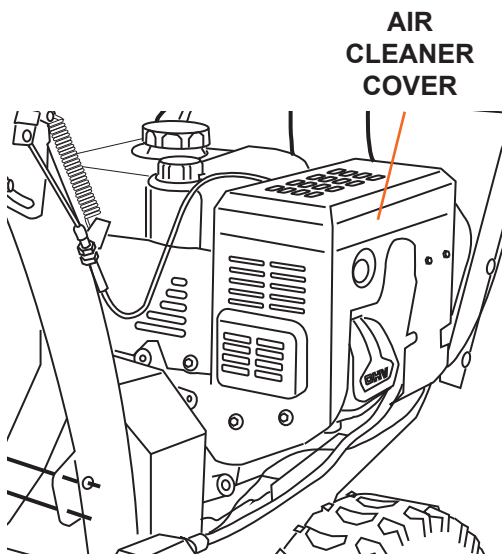

Figure 15
1. Wipe off the air cleaner cover. Loosen the knob at the bottom of the air cleaner housing (see Figure 15).